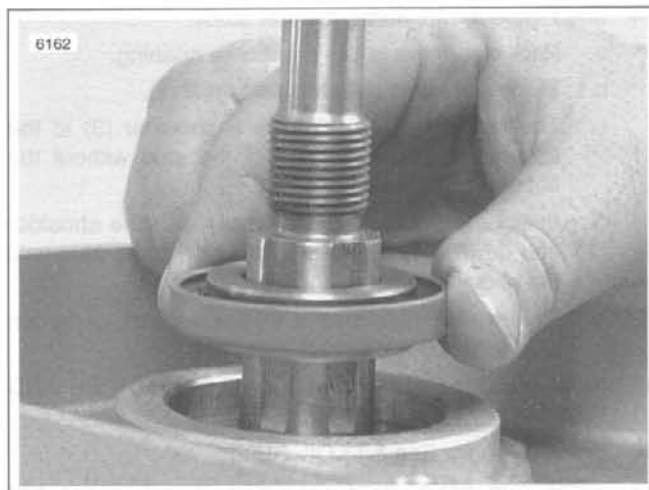

Figure 3-120. Install Spacer in Seal
10. See Figure 3-120. Install **new** spacer in seal ID. With the open (lipped) side facing outward, center seal/spacer assembly over bearing bore.